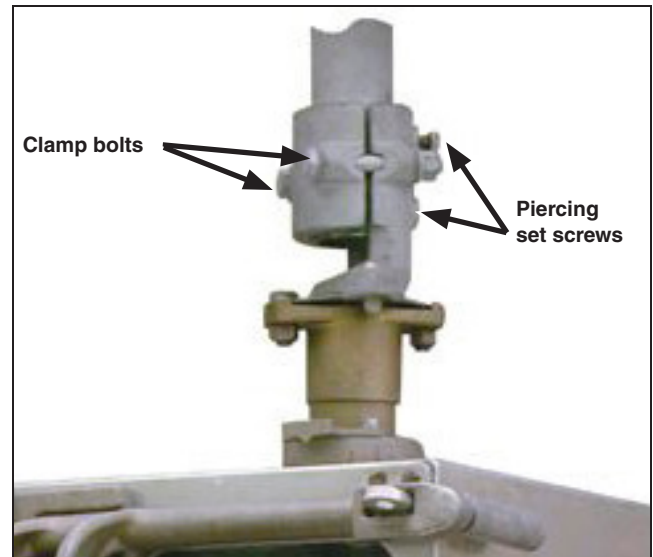

Figure 6. Tighten the clamp bolts and piercing set screws.
- STEP 3.** At the switch operator output shaft, replace the detachable portion of the coupling clamp. Make sure the cutting tips of the piercing set screws do not protrude through the body of the coupling. Torque the flexible coupling clamp bolts equally to final tightness so the clamp pulls down evenly on the vertical operating-pipe section. Then, tighten the associated piercing set screws, piercing the pipe, and continue turning until feeling a firm resistance. Figure 6.